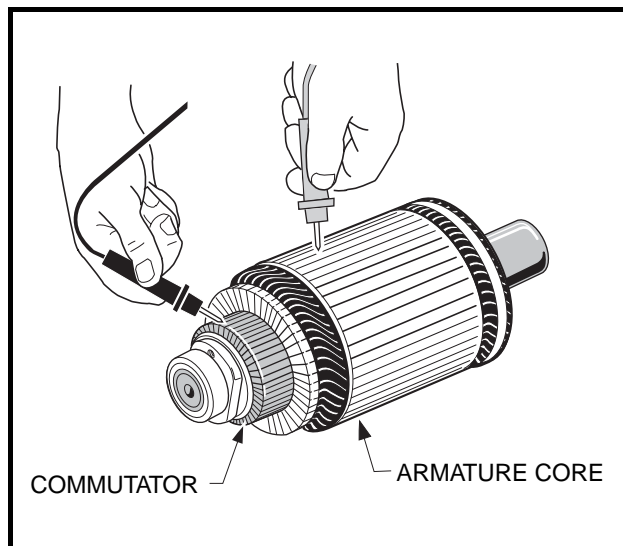

Figure 15a-7 Armature Test
1. With a multimeter set to 200 ohms, place one probe on the commutator and the other on the armature core. The multimeter should indicate no continuity (**Figure 15a-7, Page 15a-6**). If the reading is incorrect, replace the armature.
1. Inspect the insulators (4 and 7) for cracks or other damage (**Figure 15a-10, Page 15a-8**).
2. Inspect the brushes (13) for damage or excessive wear. Replace brushes if required. **See following NOTE.**